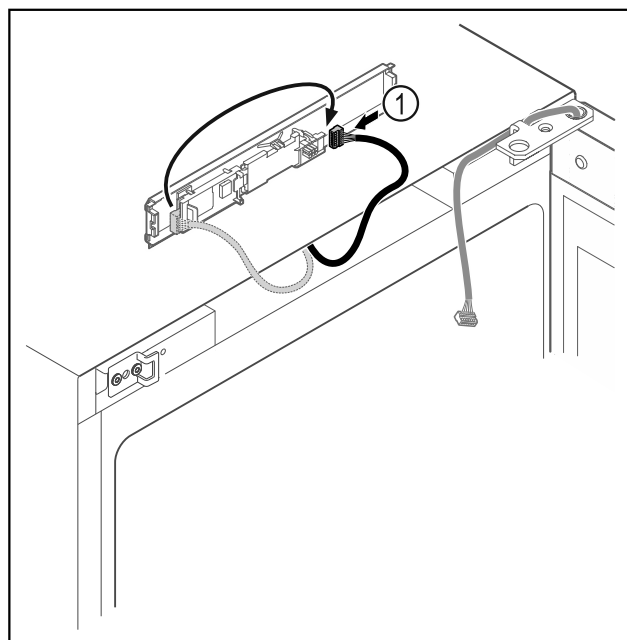

Fig. 19
- Connect the plug Fig. 19 (1) to the circuit board.